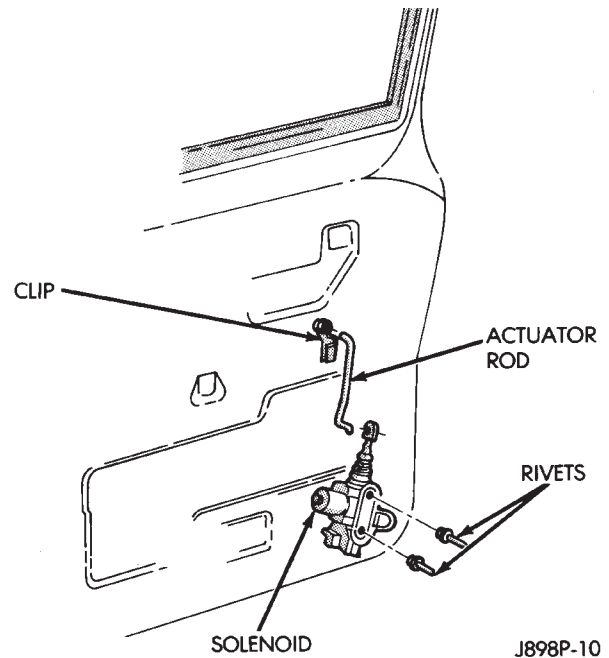

Fig. 7 Solenoid Removal/Installation
(10) Grind out or drill out the lock solenoid rivets and remove solenoid with latch assembly and remote control rods (Fig. 7).
(11) Place lock solenoid, latch and remote control rods in door.
(12) Attach lock solenoid to door panel with pop rivets or nuts and screws.
(13) Attach latch. Tighten screws to 9 N·m (7 ft. lbs.) torque.
(14) Install door trim panel and plastic water dam sheet.